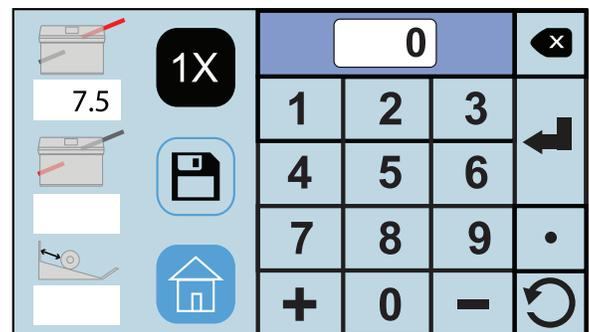

Fig. 24
Press the enter key  to enter the measurement . The white box under the icon will show the measurement entered (Fig. 24).
2. Select the lower fold plate icon  (Fig. 24) to set the fold stop position for the second fold (the icon will flash dark gray when selected). Using the touch pad, key in the measurement for the second fold stop position, (**Note:** the minimum position is 1.49" and the max. position is 8.40").